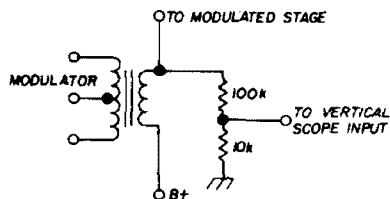

fig. 8. Resistive divider is used to pick off signal for a-m modulation monitor.
fig. 8 Practical audio power amplifiers using the HC-1000. Circuit in (A) requires both positive and negative voltages; circuit in (B) requires only negative supply voltage.
The HC-1000 circuits in fig. 8 are designed for a positive and negative power supply (fig. 8A) or a negative power supply (fig. 8B). Circuit 8A includes an output transformer for providing a proper match to a specific load resistance.
If you have a dc-coupled oscilloscope in the shack, such as the EICO 460, here is a low-cost and simple method of keeping track of your percentage of modulation. At vhf the usual techniques of envelope patterns and trapezoidal patterns become very difficult, if not impossible. The method shown in fig. 8 is based on the fact that the plate voltage applied to an amplitude-modulated stage varies between zero and twice the dc supply voltage for 100% modulation of a properly adjusted a-m transmitter.